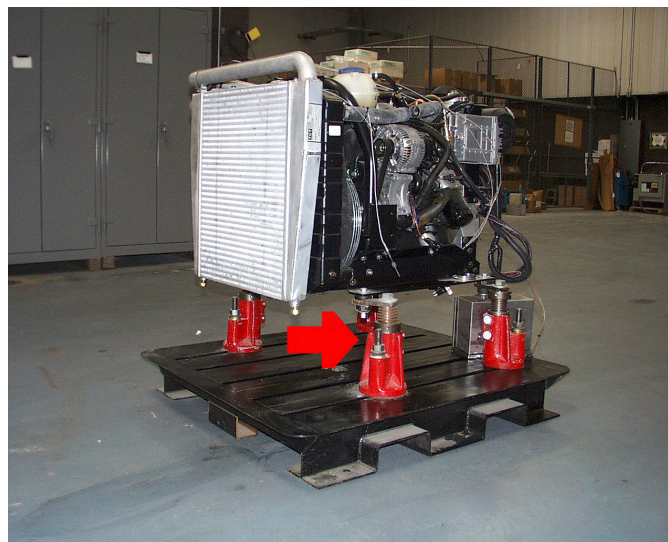

Figure 9
- 109 Use the mounting assemblies (arrow in Figure 9), to adjust the engine to the appropriate height and angle for attachment to the dyno.